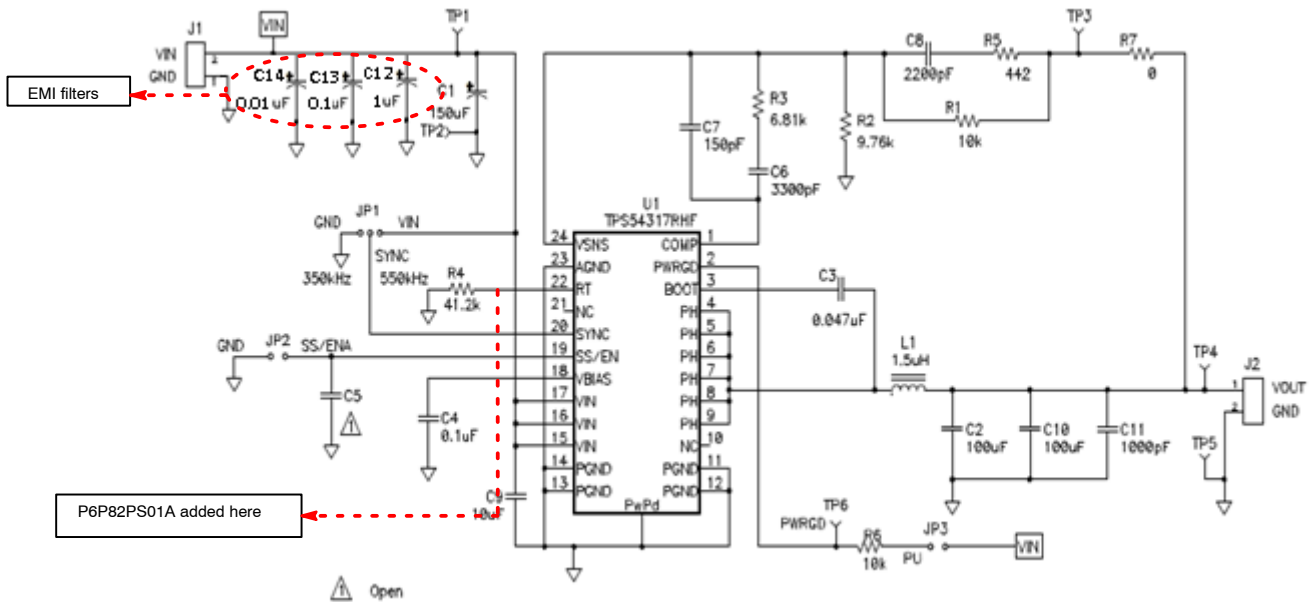

Figure 8. TPS54317-EVM Schematic Diagram
This case study is based on TPS54317, a 1.6 MHz, 3 V to 6 V input, 3 A synchronous step-down converter. It has an Adjustable output voltage from 0.9 V to 2.5 V. Operating frequency range is 280 kHz to 1.6 MHz, controlled by the timing resistor (RT) (R4 in Figure 8).
As shown in Figure 8, capacitor C1, C12, C13, C14 are input EMI filters and P6P82PS01A is added at the RT node of PWM controller.